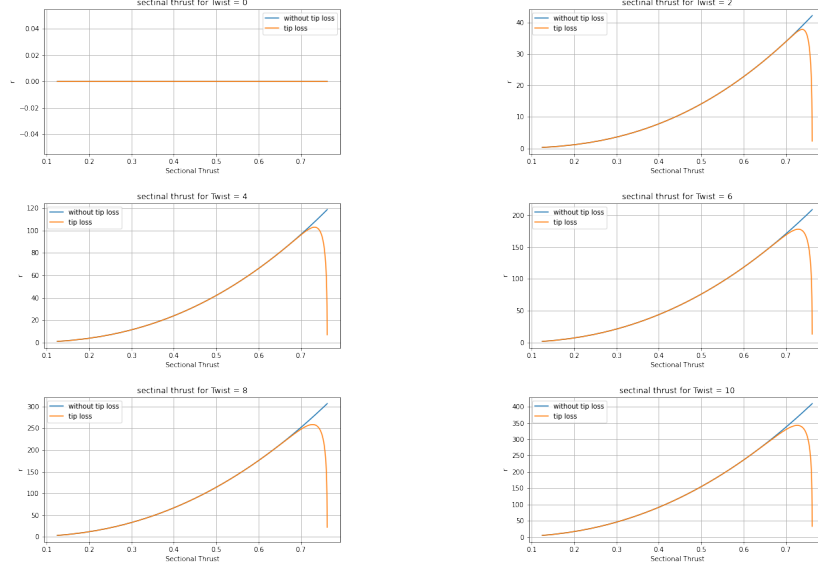

Figure 1: Sectional Thrust vs r
- For sub-figure 1 at zero twist there is no Thrust generation so there is no effect of Tip loss correction